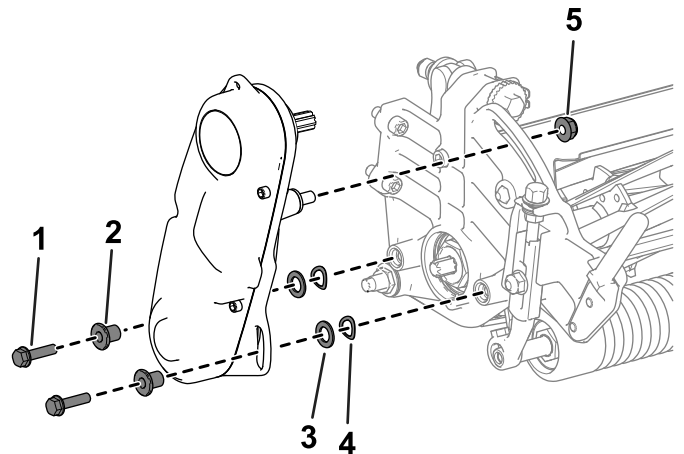

Figure 33
2. Remove the hardware that secures the reel-drive assembly to the side plate (Figure 33).
3. Remove the reel-drive assembly, flat washers, spring washers, and spacers from the side plate (Figure 33).